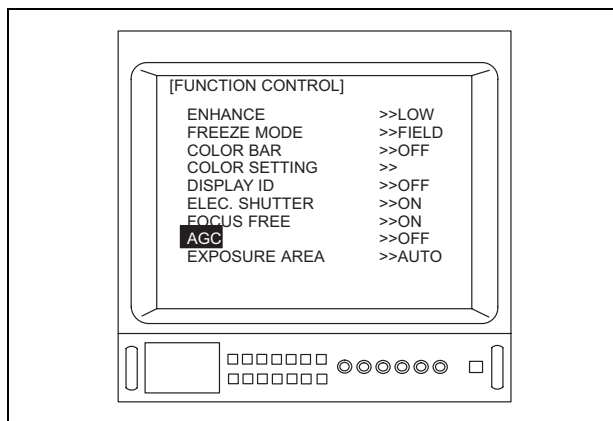

Figure 5.33
5. Depress the menu switch “” or the “Enter” key on the keyboard to adjust “AGC” (see Figure 5.33).
- If the AGC is turned OFF, “OFF” appears next to “AGC” in the menu shown in Figure 5.33.